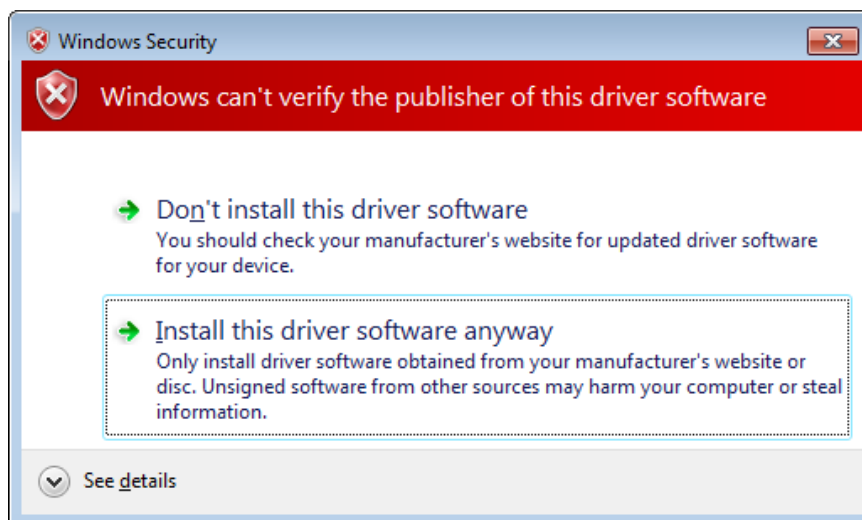

Figure 1-1
- 7、Waiting done. If following page appear (Figure 1-1), please select **Install this driver software anyway**.